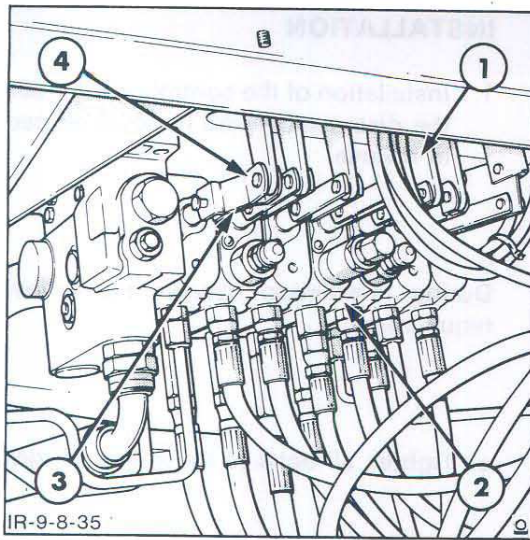

Figure 40
2. Disconnect the bellcrank, to valve spool link assembly pivot pins and remove the links, Figure 40.